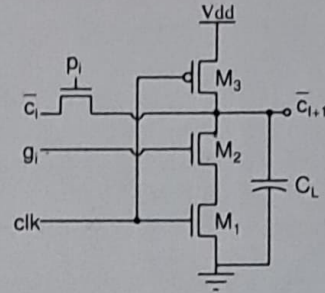

Figure 4
- (b) Since, $c_{(i+1)} = g_i + (p_i \cdot c_i) = g_i + (p_i \cdot g_{i-1} + p_i \cdot p_{i-1} c_{i-1}) = \dots$, the static implementation for the computation of carry term as a logic expression depending on all a_i, b_i and c_0 will incur significant delay and therefore it is rarely used. A faster way could be to use dynamic implementation. Consider the circuit shown in Fig.4. Find $\overline{c_{(i+1)}}$ for pre-charge phase ($clk = 0$) and evaluate phase ($clk = 1$). Can the circuit be used to implement the required logic ($c_{(i+1)} = (p_i \cdot c_i) + g_i$) to pre-compute carry in CLA. Discuss briefly. [3]